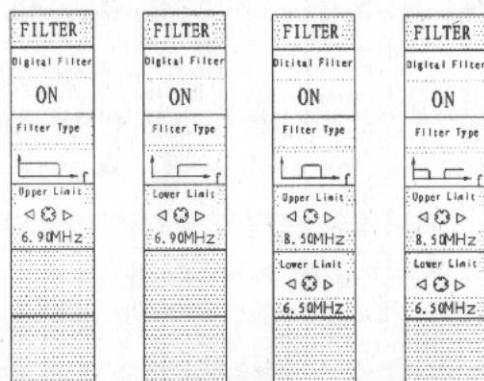
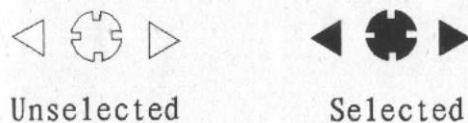

Figure 2-6
Figure 2-7
g. Digital filter, see Fig.2-6 and Fig.2-7